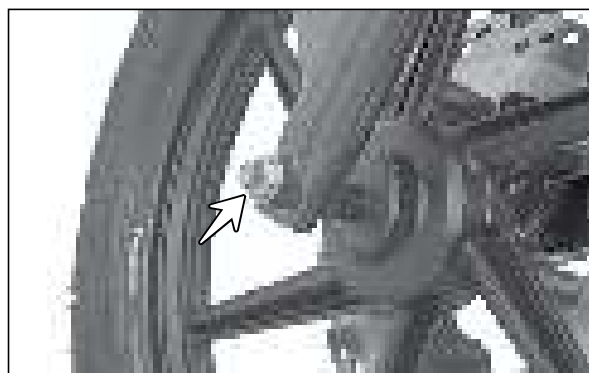

Fig. 6.2
- Draw out the axle front along with punched washer. (Fig. 6.2)